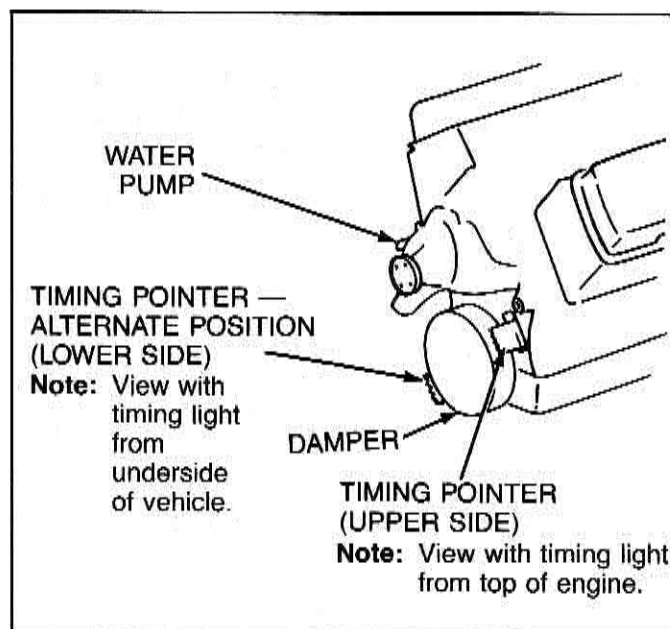

Figure 7-43 — Timing Mark — Typical
4. Start the engine and aim the timing light at the timing mark. (See Figure 7-43.) The line on the balancer or pulley will line up at the timing mark. If a change is necessary, loosen the distributor hold-down clamp bolt at the base of the distributor. While observing the mark with the timing light, slightly rotate the distributor until the line indicates the correct timing. Tighten the hold-down bolt and recheck the timing.